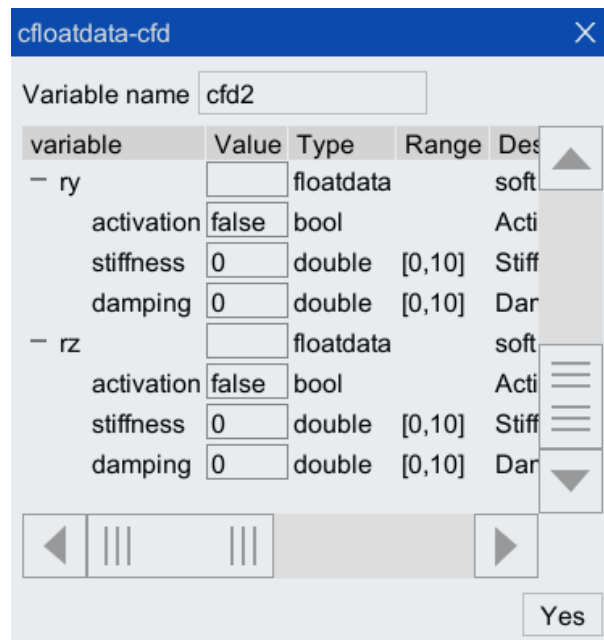

Figure 5-12 Parameter configuration interface
- Step3. Click the "☰" after the [cfd] parameter, and the configuration interface shown in Figure 5-12 will pop up. The value of [activation] of the configuration variable Z is "true", and the value of the stiffness parameter [stiffness] is "0". Click <Yes> after the configuration is complete.